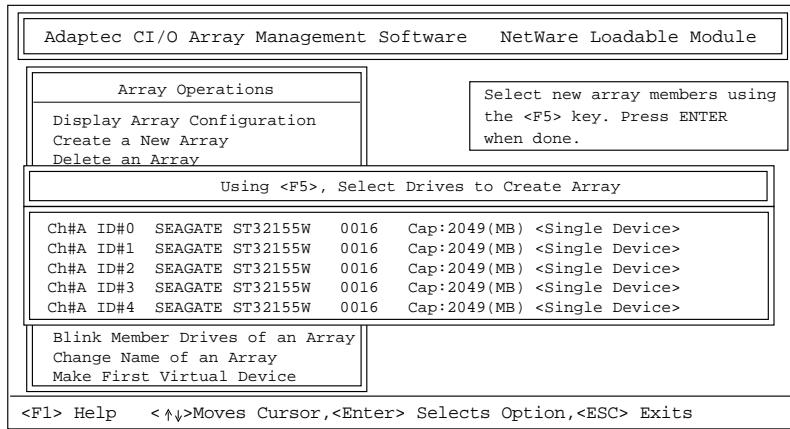

Figure 3-2. Select Drives to Create Array Window
- 2 When the Array Operations menu appears, select **Create a New Array**. The Select Drives to Create Array window appears, similar to Figure 3-2.